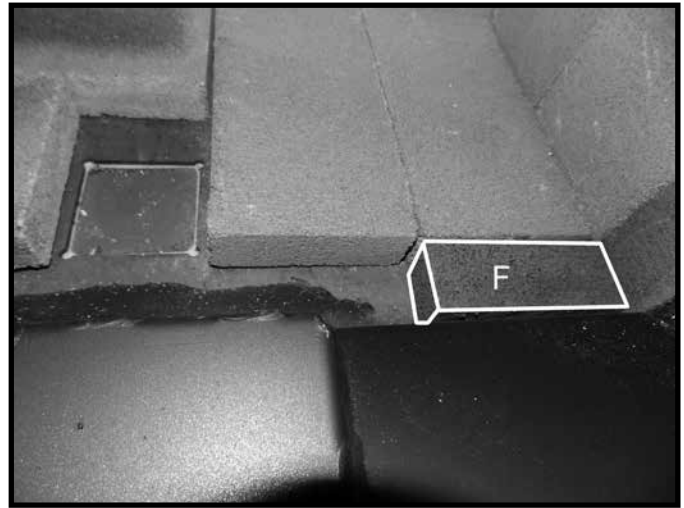
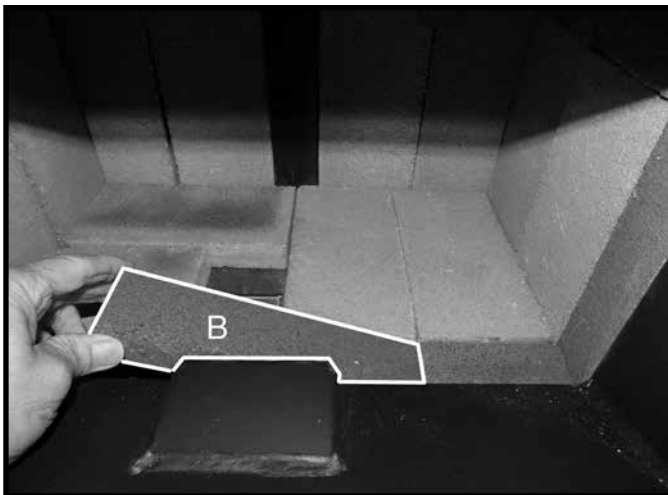
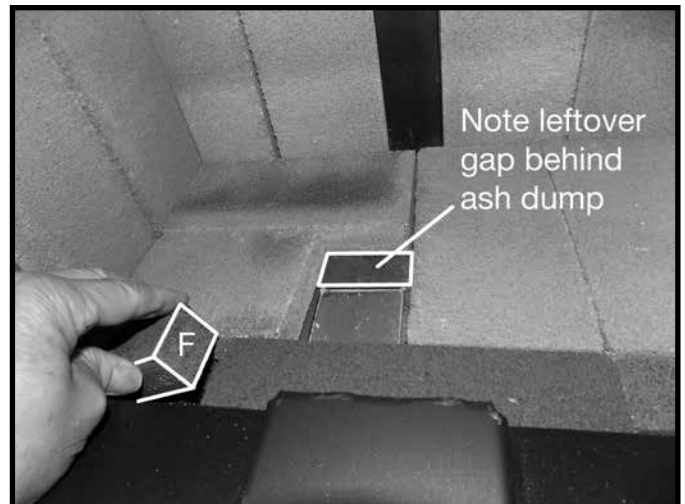

Figure 23: Short, narrow brick installed in front row.
Figure 24: Long narrow center brick in front row.
Figure 25: Final short narrow brick in front row.
- Place a short narrow "F" brick against the front right side of the floor (Figure 23) followed by a longer "B" brick in the center of the front row (Figure 24). Finish with the last "F" brick placed against the left side front row (Figure 25). Note: There will be a leftover gap behind the ash dump.